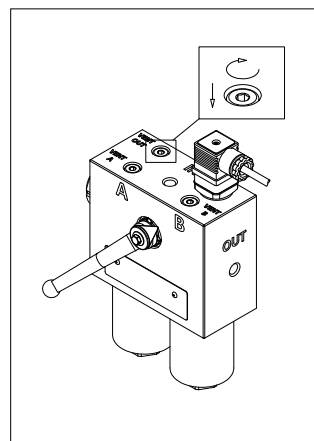

fig. 30
- (Fig. 30) Immediately screw the breather plug in